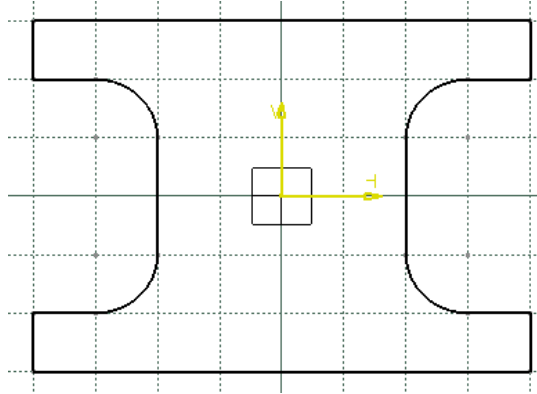

Figure 1-40 Sketch after drawing outer loop of the sketch
24. Move the cursor vertically downward and specify the endpoint of the line when it snaps the start point of the outer loop. The sketch after completing the outer loop of the sketch, after hiding the constraints, is shown in Figure 1-40.